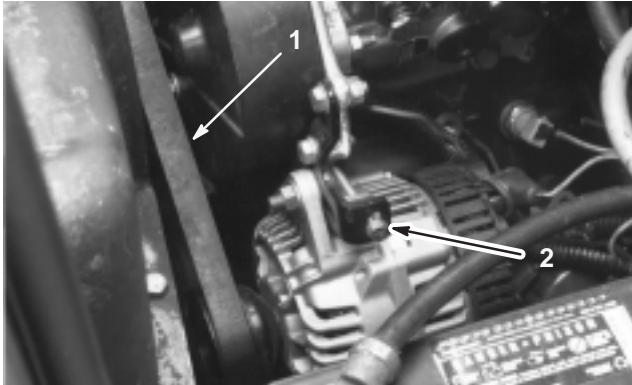

Figure 45
Check condition and tension of fan belt (Fig. 45) frequently. It is recommended that belt be inspected every 800 hours of operation.
- If deflection exceeds 1/4 in. (6 mm), loosen alternator mounting bolts. Adjust alternator belt tension by adjusting tension screw (Fig. 45). Check deflection of belt again to assure tension is correct.